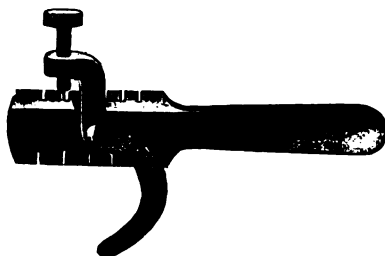

FIG. 8
**Set**—Fig. 8 represents a finely constructed tool for setting the points of teeth in small rip and cut-off saws. This is considered one of